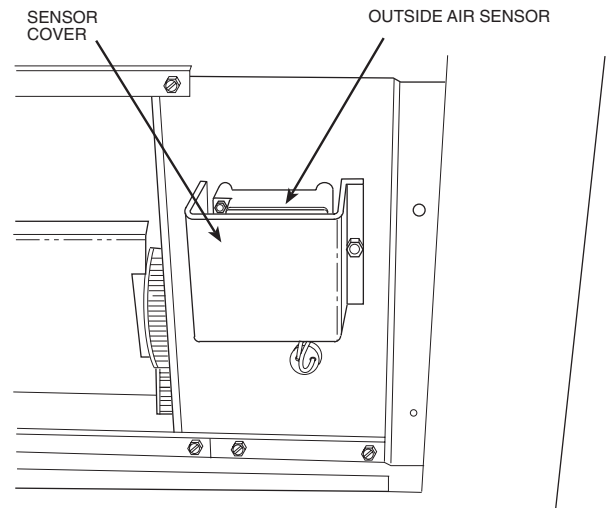

Fig. 22 — Outdoor-Air Sensor Location
1. Remove the outdoor air temperature sensor cover. See Fig. 22. Save cover and screws.